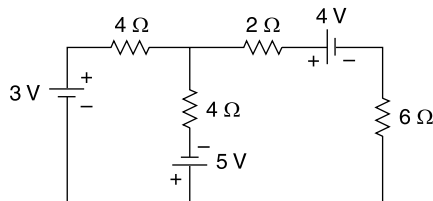

Fig. 4.101 Circuit of Ex. 4.73
4.73 Find current in $6\ \Omega$ resistor using Norton's theorem for the network shown in Fig. 4.101.